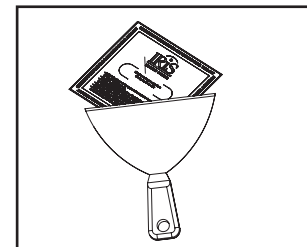

Figure 10.
1. Allow the first coat to dry overnight. Apply a multi-purpose compound, following the manufacturer's instructions and warnings with an 8" knife feathering at least 2" beyond the first coat (Figure 10.). Additives (such as Trim-Tex Mud-Max) can be used to improve strength and durability of the drywall compound. Tip – do not sand unless it is necessary.